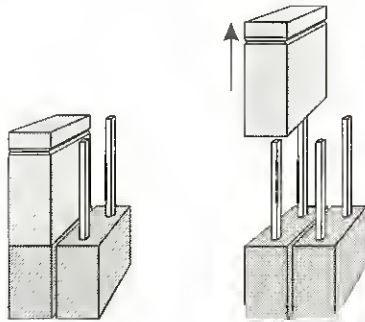

Figure 5-1: Removing jumper block.
- Remove the jumper block(s) from the pair(s) of pins that do not need the block(s) as shown in Figure 5-1.